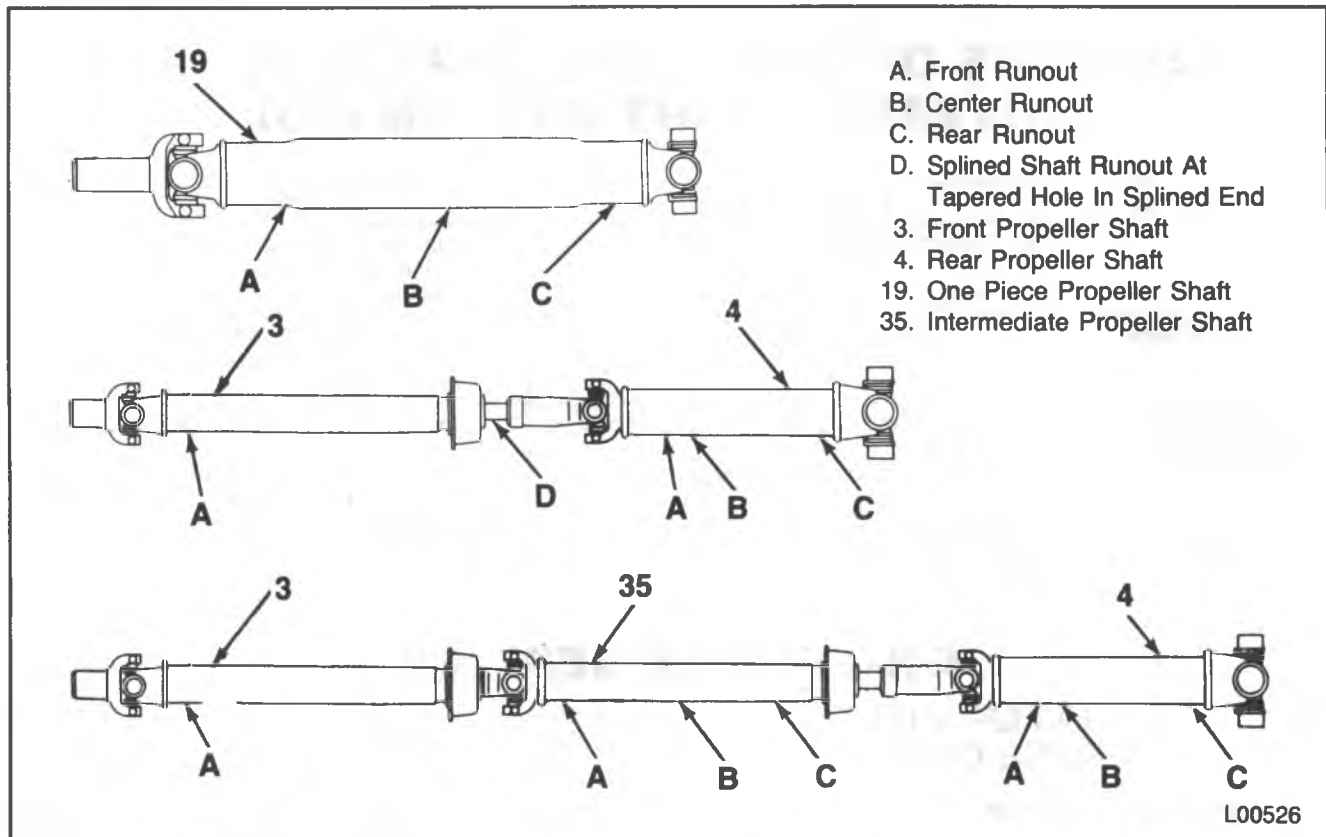

Figure 5 — Checking Propeller Shaft Runout
- Take dial indicator readings at the propeller shaft check points shown in figure 5. For runout specifications, refer to figure 6.
- One-piece: Measure the runout at the points shown in figure 5. If runout exceeds specifications, rotate the propeller shaft 180 degrees at the pinion flange and install. Check the runout again.
- Two-piece: Measure the rear propeller shaft runout (figure 5). Reference mark the position of the rear propeller shaft yoke to the pinion flange, then remove the rear propeller shaft and measure the front propeller shaft runout, both on the tube and at the tapered hole on the splined end (figure 5). If the runout exceeds specifications, rotate the rear propeller shaft 180 degrees at the pinion flange and install. Check the runout again.